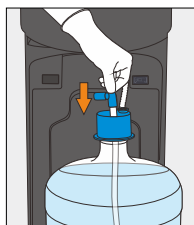

Figure 7
8. Push probe down until the tube hits the bottom of bottle (Figure 7).